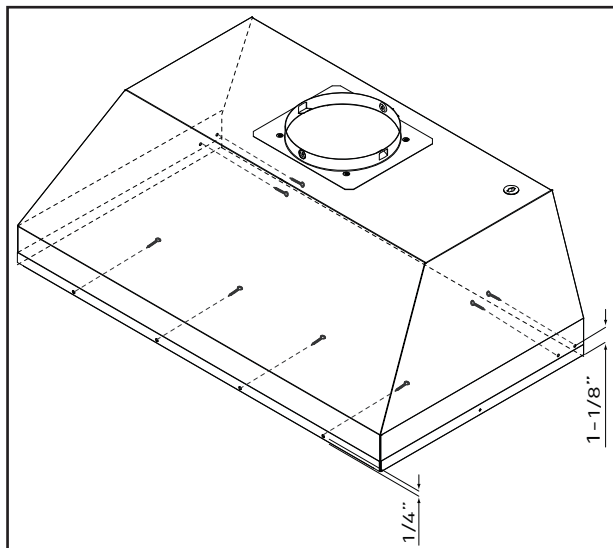

FIG. 3
4. Lift insert into bottom opening of cabinet and secure to interior of cabinet using (8) #8 x 1/2" stainless steel screws; (4) screws in the front and (4) screws in the sides. FIG. 3.